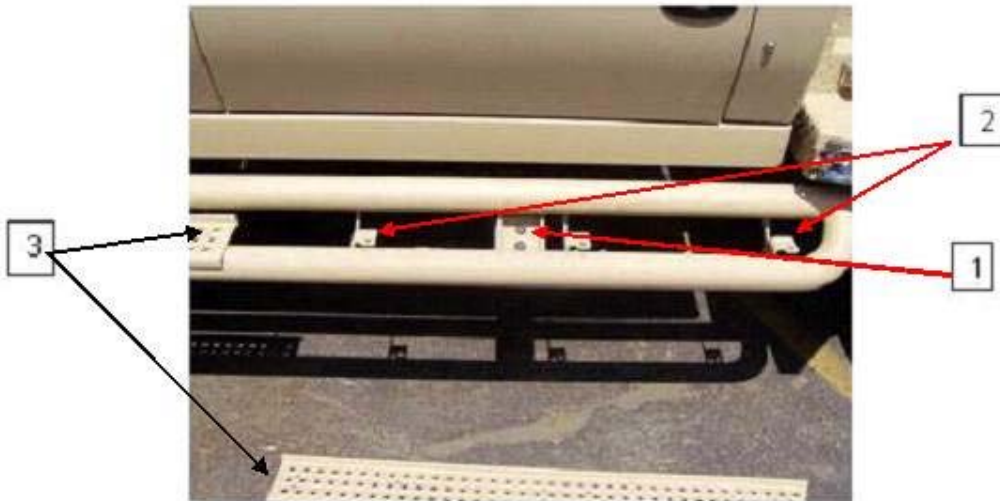

Figure 48 Running Boards
1. Remove four bolts and nuts (Item 1, Figure 48) from the running board front bracket (Item 2, Figure 48).
2. Remove the remaining four bolts and nuts (Item 1, Figure 48) from the running board rear bracket (Item 2, Figure 48). Remove the running board.
Refer to Figure 48 for items in parentheses.